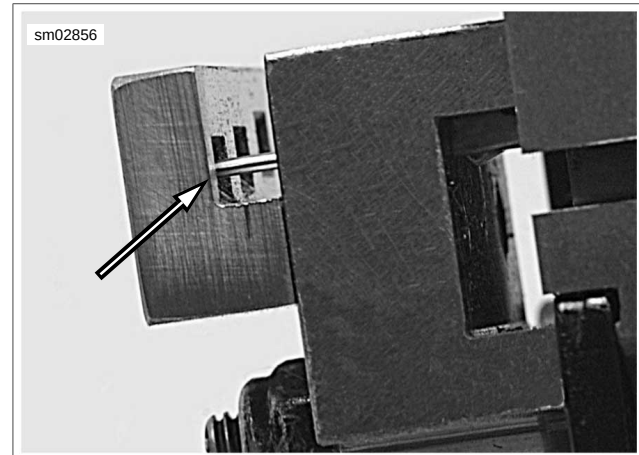

Figure A-32. Pin Terminal against Pin Locator Bar
- b. **Pin Terminal:** See Figure A-32. The tip of a pin terminal passes through the socket locator bar and stops in the notch in the face of the pin locator bar.